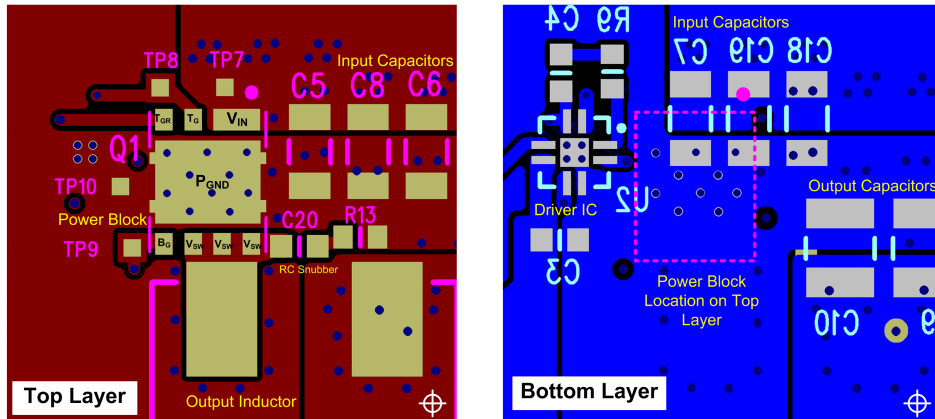

Figure 34. Recommended PCB Layout (Top Down View)
- The placement of the input capacitors relative to the power block's VIN and PGND pins should have the highest priority during the component placement routine. It is critical to minimize these node lengths. As such, ceramic input capacitors need to be placed as close as possible to the VIN and PGND pins (see Figure 34). The example in Figure 34 uses 6 × 10-μF ceramic capacitors (TDK Part # C3216X5R1C106KT or equivalent). Notice there are ceramic capacitors on both sides of the board with an appropriate amount of vias interconnecting both layers. In terms of priority of placement next to the power block, C5, C7, C19, and C8 should follow in order.
- The switching node of the output inductor should be placed relatively close to the power block VSW pins. Minimizing the node length between these two components will reduce the PCB conduction losses and actually reduce the switching noise level. In the event the switch node waveform exhibits ringing that reaches undesirable levels, the use of a boost resistor or RC snubber can be an effective way to reduce the peak ring level. The recommended boost resistor value will range between 1 Ω to 4.7 Ω depending on the output characteristics of driver IC used in conjunction with the power block. The RC snubber values can range from 0.5 Ω to 2.2 Ω for the R and 330 pF to 2200 pF for the C. Refer to Snubber Circuits: Theory, Design and Application (SLUP100) for more details on how to properly tune the RC snubber values. The RC snubber should be placed as close as possible to the Vsw node and PGND, see Figure 34.(1)
- Use the smallest drill size allowed in your design. The example in Figure 34 uses vias with a 10-mil drill hole and a 16-mil capture pad.